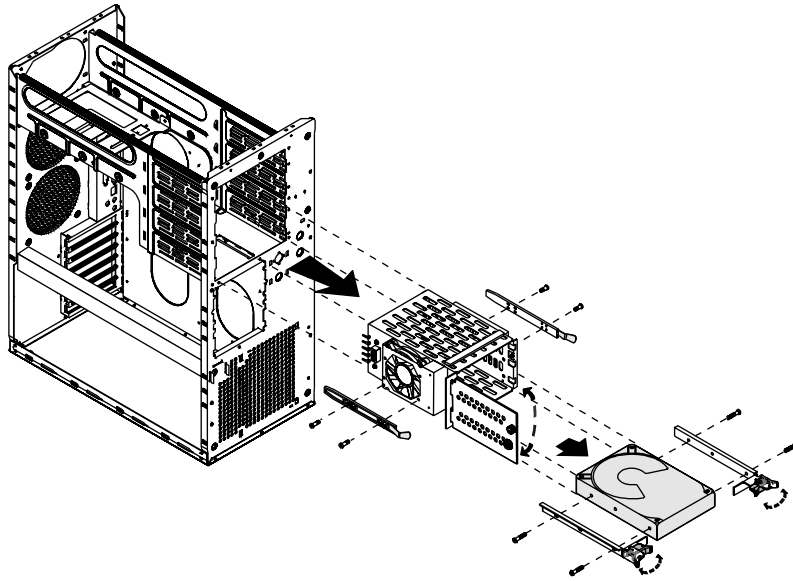

Figure 27: Removing the SCSI Drives
- A. Pull the latching clips outward to release the drive from the RAID Cage (see Figure 27).